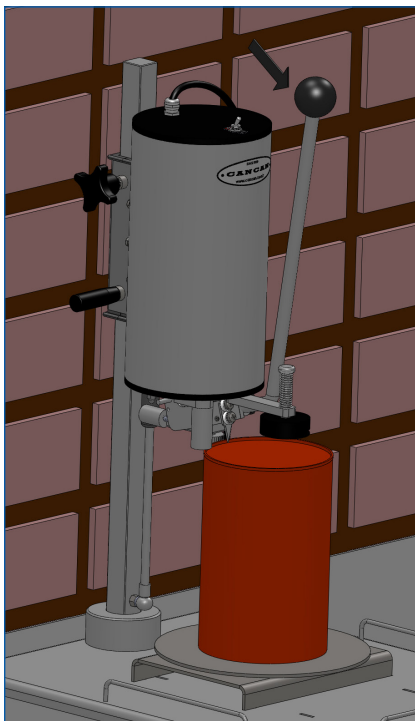

Figure 11
- Pull the arm towards you and make sure the knife pierces the upper sheet of the circular can. Now you may start the cutting operation by bringing the on-off button of the equipment to 'on' position. **(Figure 11)**